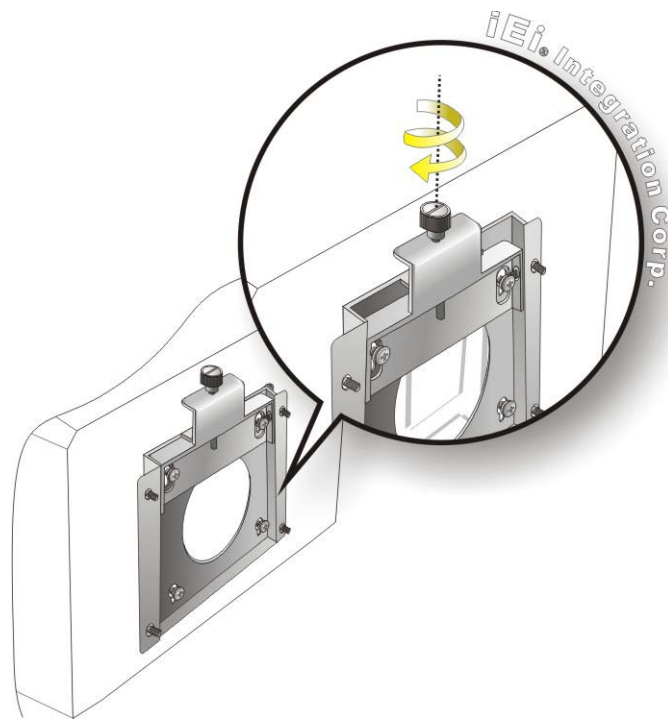

Figure 3-9: Secure the Panel PC
- Step 9:** Secure the panel PC by fastening the retention screw of the wall-mounting bracket. (Figure 3-9).